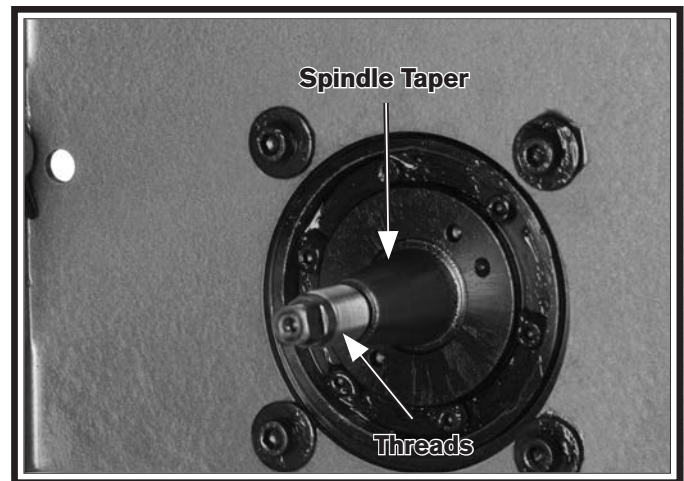

Figure 35. Spindle taper.
10. Wipe the spindle threads, the spindle, and the hub tapers (see **Figures 35–36**) so they are perfectly clean. Wiping the threads and taper with a lightly-oiled rag to prevent rust and still to allow for a tight fit.